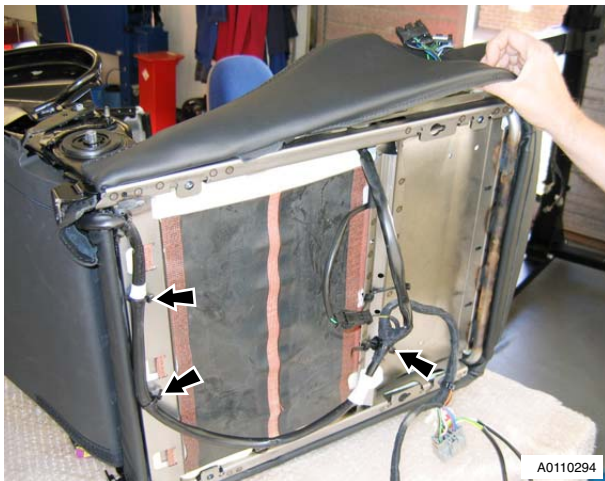

Figure 9
16. Release harness from clips (x3) and seat cover loop, feed through seat frame (see Figure 9).